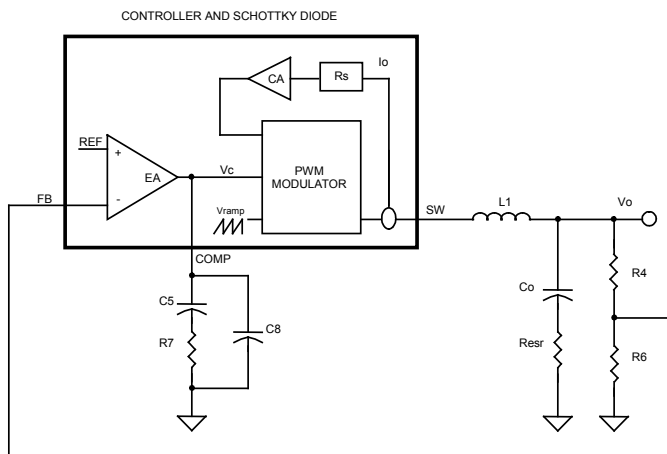

Figure 7. Block diagram of control loops
The block diagram in Figure 7 shows the control loops of a buck converter with the SC4524C. The inner loop (current loop) consists of a current sensing resistor ( $R_s=5.5\text{m}\Omega$ ) and a current amplifier (CA) with gain ( $G_{CA}=18.5$ ). The outer loop (voltage loop) consists of an error amplifier (EA), a PWM modulator, and a LC filter.
For a converter with switching frequency  $F_{SW}$ , output inductance  $L_1$ , output capacitance  $C_o$  and loading  $R$ , the control ( $V_c$ ) to output ( $V_o$ ) transfer function in Figure 7 is given by: